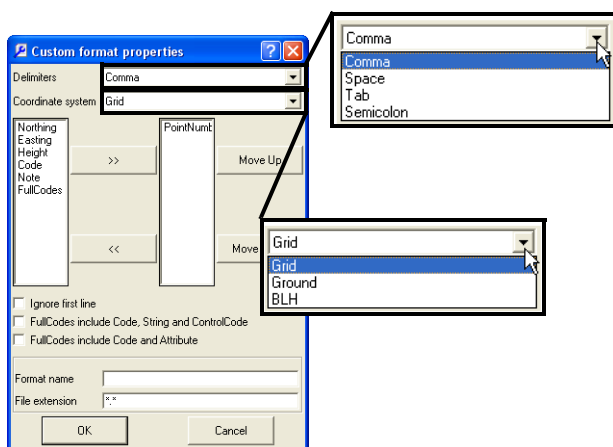

Figure 3-6. Select Delimiters and Coordinate System
- On the *Custom format properties* dialog box, select the *Delimiters* and *Coordinate system* from the drop-down lists (Figure 3-6).